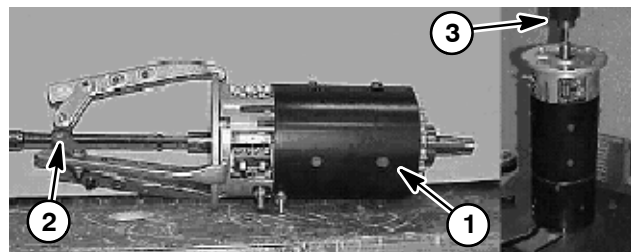

Figure 57
3. Use an arbor press or a bearing puller to remove the armature from the commutator end head and frame and field assembly (Fig. 57).
4. Remove four (4) bolts that secure the commutator end head to the frame and field assembly. Remove commutator end head from frame and field assembly.